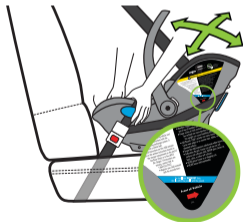

Figure 74
- Grip Carrier near blue LATCH/Lap Belt Guides and pull Carrier side-to-side and front-to-back to check for secure installation, as shown in **Figure 74**.
- Verify that the blue Recline Reference Line on side of seat is parallel with ground, as shown in **Figure 74**. If not, unbuckle the seat belt and go back to **Step 6**.